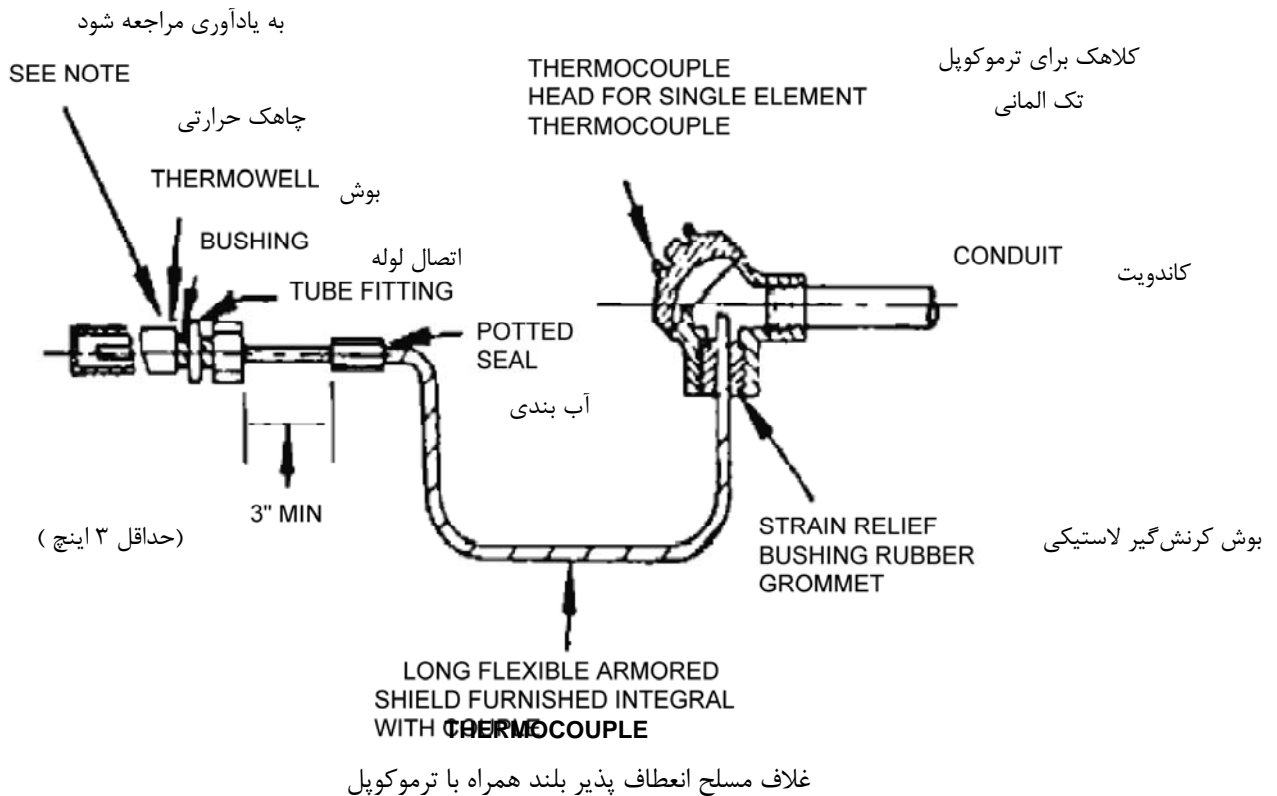

Fig. 1 - SHEATHED-TYPE THERMOCOUPLE AND HEAD ASSEMBLY
7.7 Metal-sheathed, mineral-insulated thermocouples where applicable such as fire boxes or furnaces are sometimes installed with the thermocouple head separated from the thermowell. An example of this type of installation is shown in Fig. 1.
7.10 For field installation where the thermocouple cannot be directly connected to rigid conduit, a flexible conduit may be used as shown in Figs 1 and 3. A seal-off with drain at the thermocouple end of the conduit and seal-off with drain at the control room entry provides a double block and bleed in case the thermowell should fail and process fluid or gas enter the conduit.
Refer to: API-RP 556, section 3.4.5, also see the attached typical drawings Fig.1, Fig.2, Fig.3 on page 23.